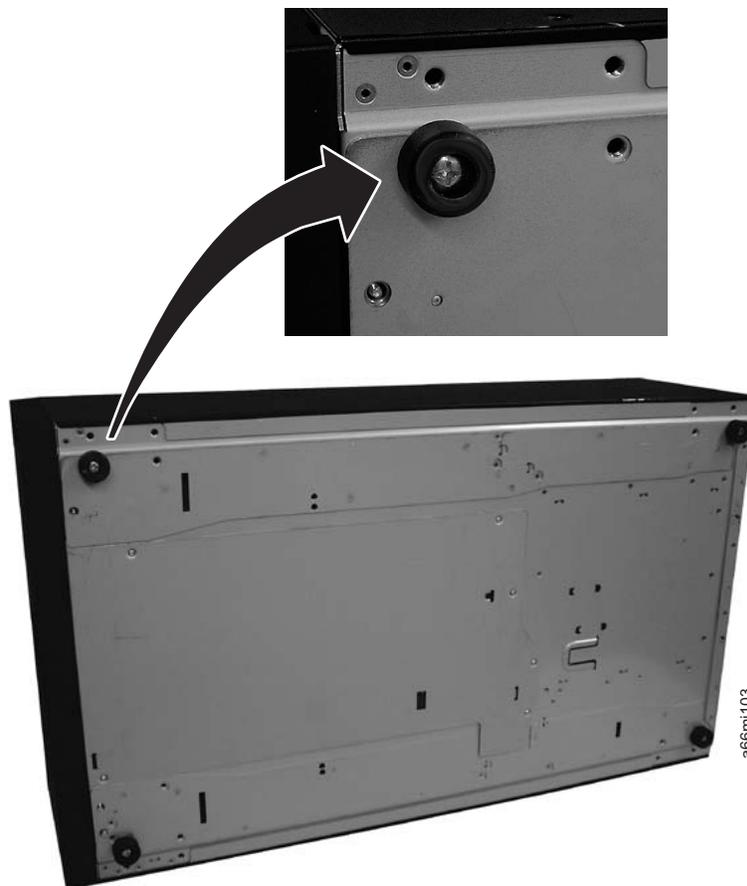

Figure 8-71. Foot pad Locations
3. Using a #2 Phillips screwdriver, install the foot pads on the bottom of the library chassis. See Figure 8-71 for foot pad locations.